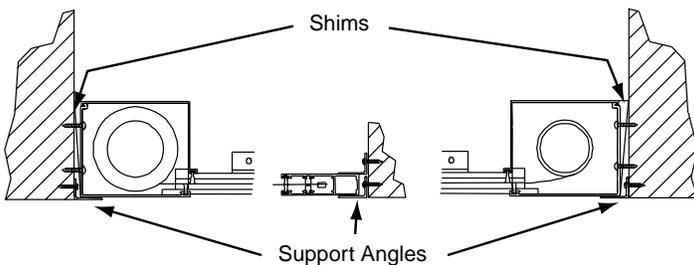

Figure 7
- ⑤ **For Inside Mount**—Place the assembled skylight frame onto the perimeter angles. NOTE: You may have to take the unit apart and reassemble it in the opening. Center the skylight frame in the opening and temporarily place shims (see Fig. 7). Once the frame is in place, measure the diagonals to make sure the unit is square. Adjust frame and re-shim until it is square, then install screws through endcaps to hold them in position.